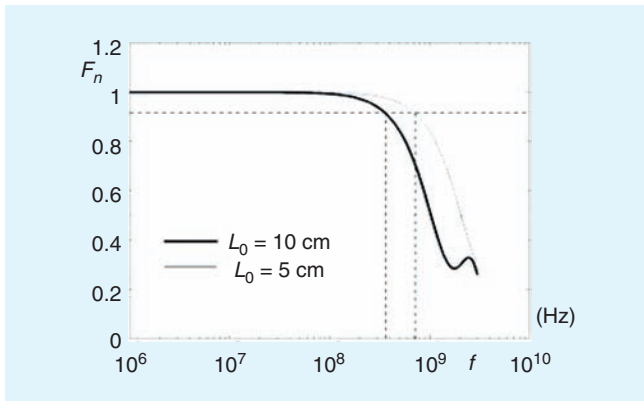

Fig. 11. Change in shape of the function  $F_n(\omega, L_0)$  with the length  $L_0$  of the shield Discontinuity.
Using the previous numerical example, correction curves can be generated according to (16). The coaxial cavity is characterized by a length  $L_1 = 70$  cm and a characteristic impedance  $Z_{c1} = 50 \Omega$ ; the TEM-mode propagation velocity on the perturbing line is  $v_1 = c$  and inside the sample cable it amounts to  $v_2 = 0.6c$ . The curves of Fig. 11 show simulations results for two discontinuities with different dimensions, as follows:  $L_0 = 10$  cm (the corresponding line is the thicker one) and  $L_0 = 5$  cm (thinner line).
The intercepts of the curves in Fig. 11 with the 0.9 and 0.5 levels identify those frequencies for which the error introduced by propagation phenomena represents 10% or 50% of the low-frequency impedance value, respectively, as summarized in the following table.